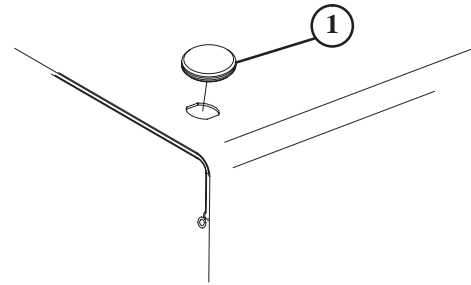

Figure 2
- Remove plug from hole in left front corner of hood (Fig. 2).